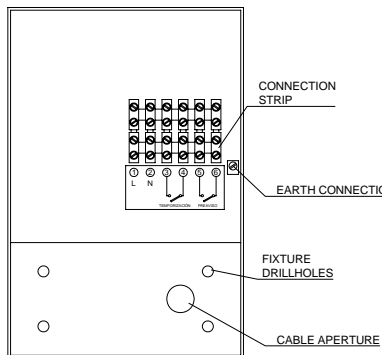

FIG. 1
- Connect the conductors to the terminal strip following the scheme shown in figure 1. Terminals 1 and 2 are for power supply and are marked L (live) and N (neutral). Terminals 3 and 4 correspond to the timing circuit and terminals 5 and 6 to the early warning circuit.